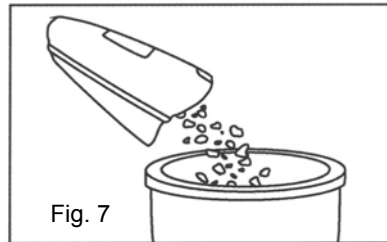

Fig. 7
3. Empty the dust from the dust cup container. (See Fig. 7)